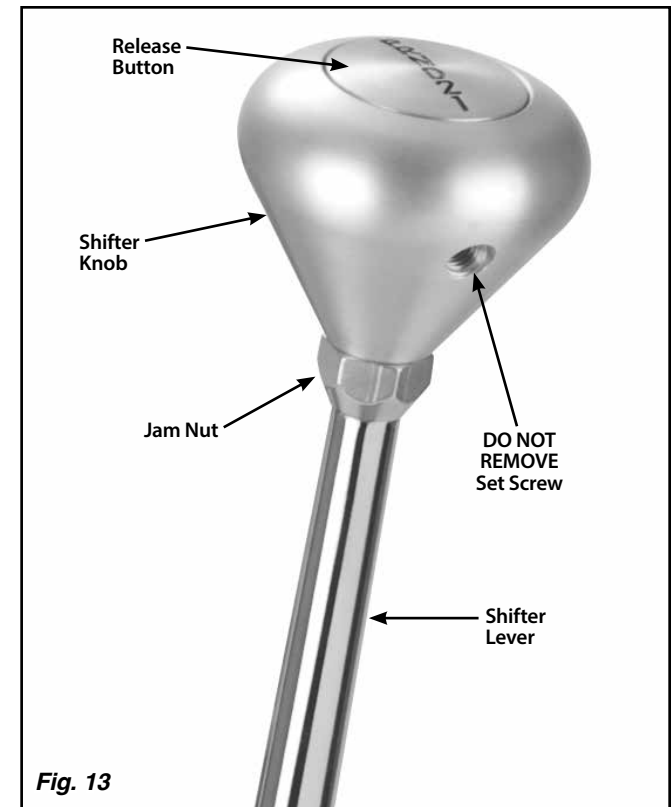

Fig. 13
- Step 2:** Loosen the jam nut below the shifter knob. **DO NOT** loosen or remove the set screw that is in the knob. **Fig. 13**